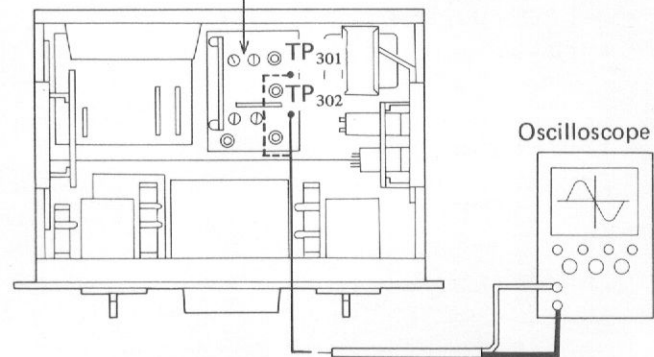

Fig. 35
1. Connect an oscilloscope to test points TP_{301} (L ch), TP_{302} (R ch) of the power and oscillation ass'y RWR-053 (Fig. 35).